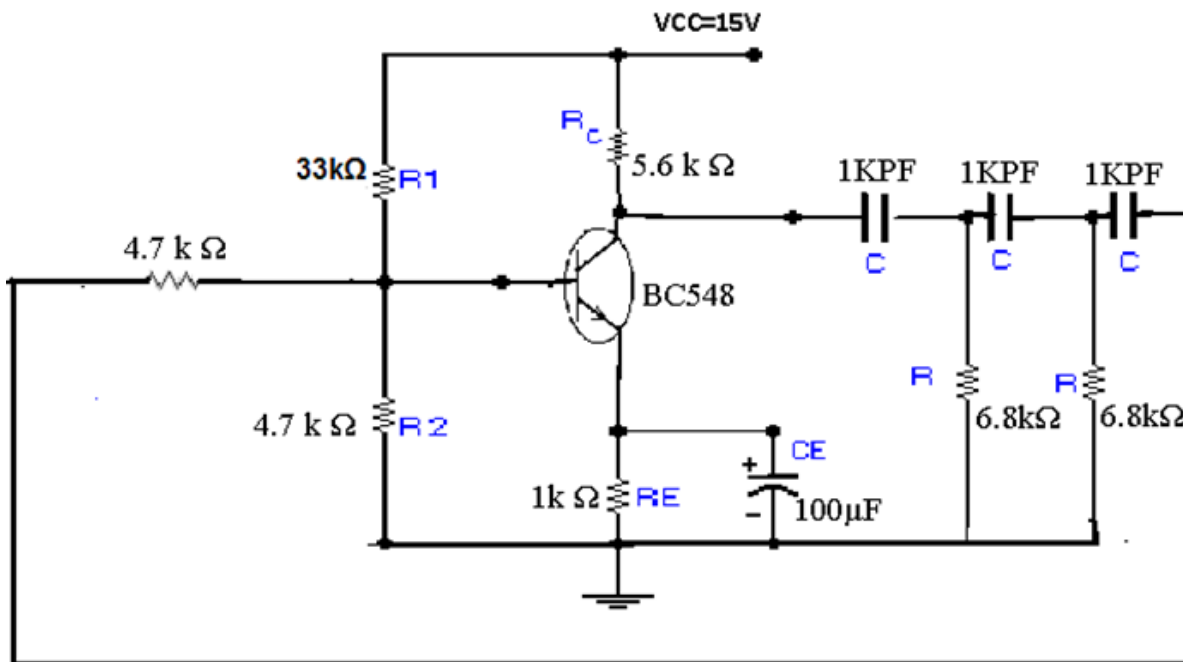

Fig 2: RC phase shift Oscillator circuit
2. Connect the circuit as shown in fig 2, Set source voltage as 30mV P-P at 1 KHz frequency using the function generator.
2. Connect the circuit as shown in figure 2.